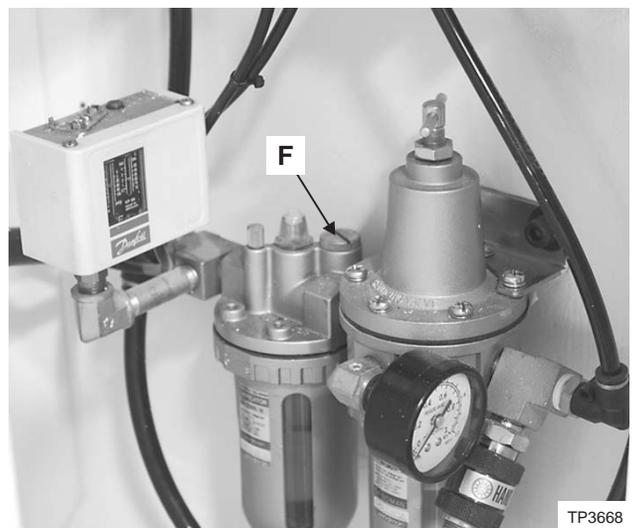

Figure 2.2 - Air/Oil Lubricator Filler Cap
3. Unthread filler cap “F”, Figure 2.2 .